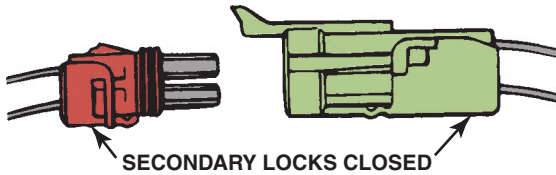

FIGURE 8-15 Separate a connector by opening the lock and pulling the two apart.
STEP 2 Separate the male and female connector by opening the lock. ● **SEE FIGURE 8-15.**